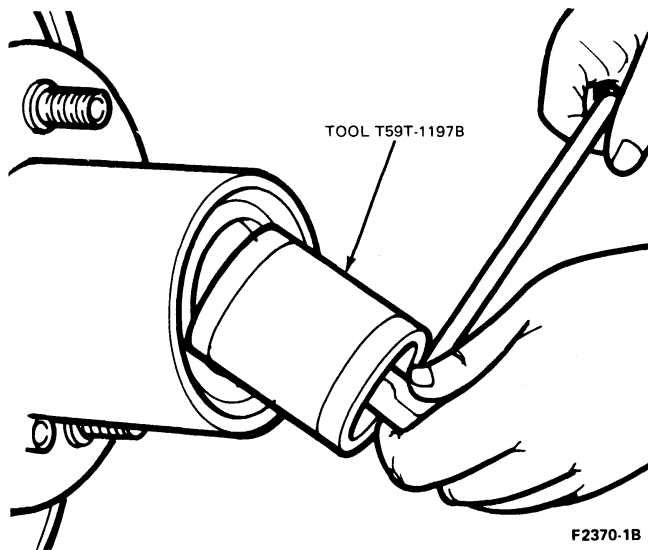

FIG. 3 Lock Nut, Lock Ring and Adjusting Nut Removal
5. Remove the wheel bearing lock nut, lock ring, and adjusting nut (Fig. 3), using Tool T59T-1197-B.